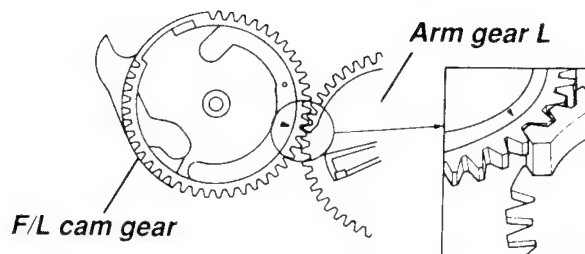

Fig. 4-1-12 Phase matching
- Align the ▼ mark on the F/L cam gear and the tip of the gear tooth (thicker) of the arm gear L. (Refer to Fig. 4-1-12.)
(8) F/L worm wheel replacement